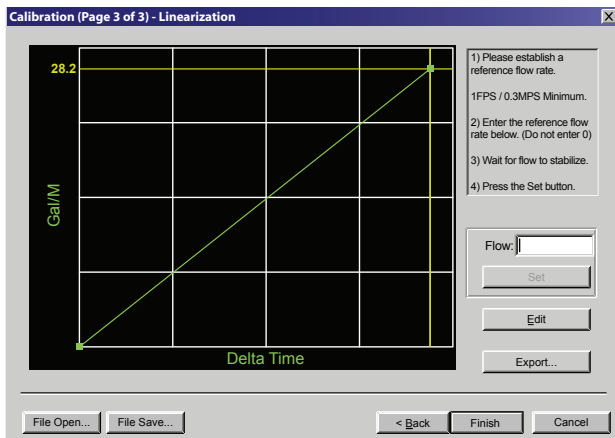

Fig. 14 Calibration (page 3 of 3)
- 3) On the pop-up screen, click Next button twice to get to Page 3 of 3. See Fig. 14.
- 9) Process will return to Page 3 of 3. Click Finish. See *Fig. 14 on page 26*.